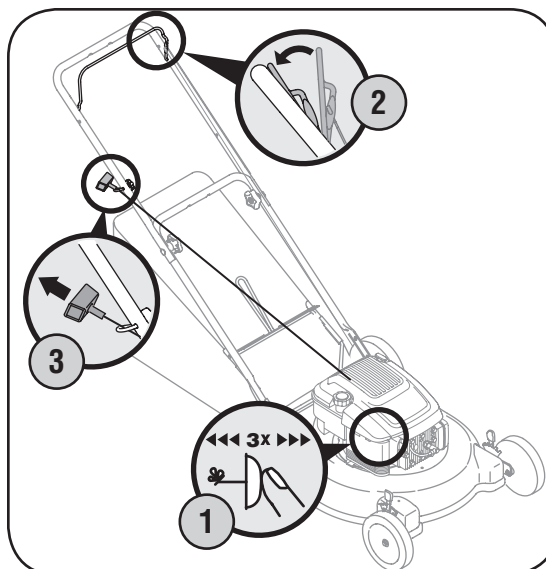

Figure 4-2: Starting the Briggs & Stratton/ Tecumseh engine.
1. Push primer (if equipped) three times. Wait about two seconds between each push. See Figure 4-2. In temperature around 55° F or below, prime five times. Do not prime to restart a warm engine.
3. Holding these two handles together firmly, grasp recoil starter handle and pull rope out with a rapid, continuous, full arm stroke. See Figure 4-2. Keeping a firm grip on the starter handle, let the rope rewind slowly. Repeat until engine cranks. Let the rope rewind each time slowly.